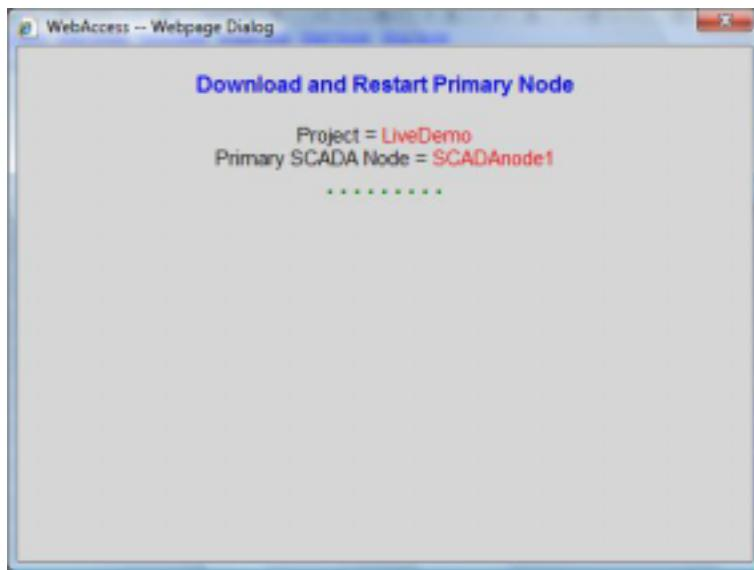

Figure 5-32 - Download and restart SCADA Node
3. The Download Dialog Box pops open (Figure 5-32).